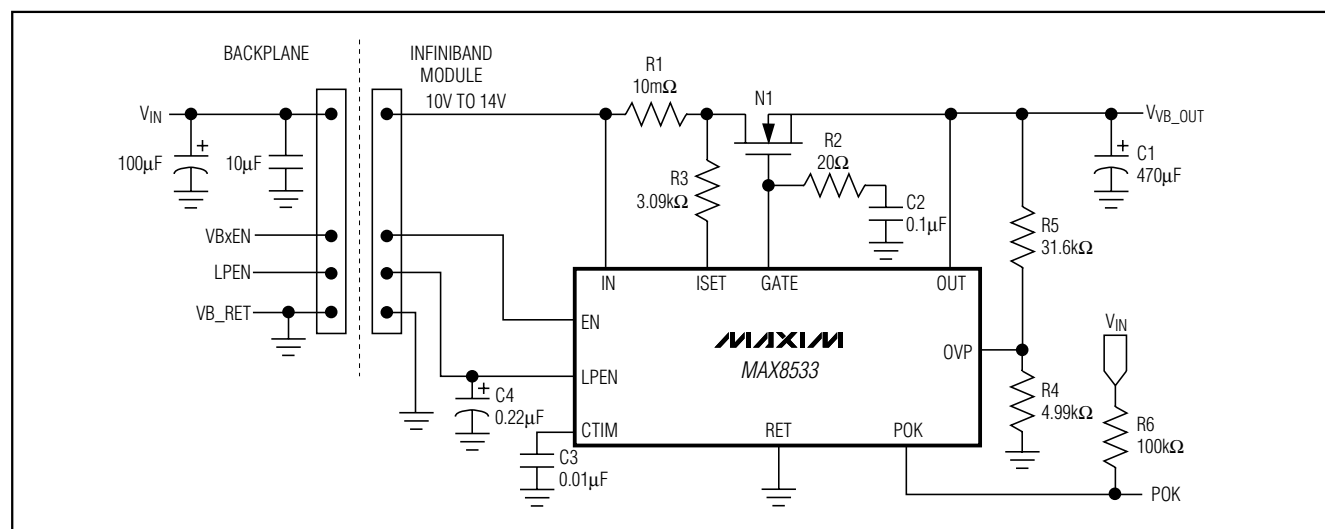

Figure 2. Typical 50W Applications Circuit
**Note 1:** The current regulation threshold is set by R3 (Figure 2). It is equal to  $20\mu A \times R3$ .
The MOSFET turn-on ramp rate is determined by the capacitor (C2) at GATE (Figure 2). An internal 10 $\mu$ A current source charges C2 to bring GATE high. The soft-start rate is determined as follows:
The MAX8533 has an adjustable overvoltage protection feature that latches the IC off in case of an overvoltage event. An external resistor-divider (R4 and R5, Figure 2) from OUT to RET with OVP connected to the center, sets the overvoltage threshold. Use 4.99kΩ for R4. R5 is determined using the following equation: